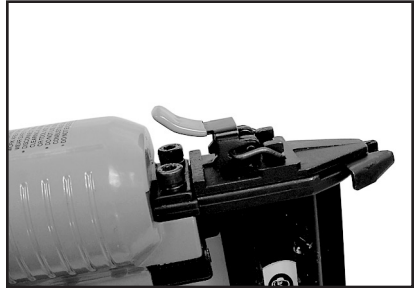

Figure 13. Brad nailer nose guide cover installed.
- Replace the nose guide cover, as shown in **Figure 13**.